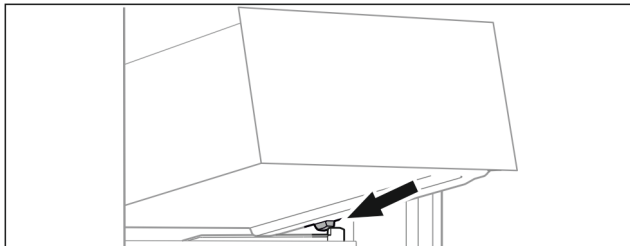

Fig. 64
- ▶ Place drawer at an angle behind the stoppers on the molded rib. (see Fig. 64)